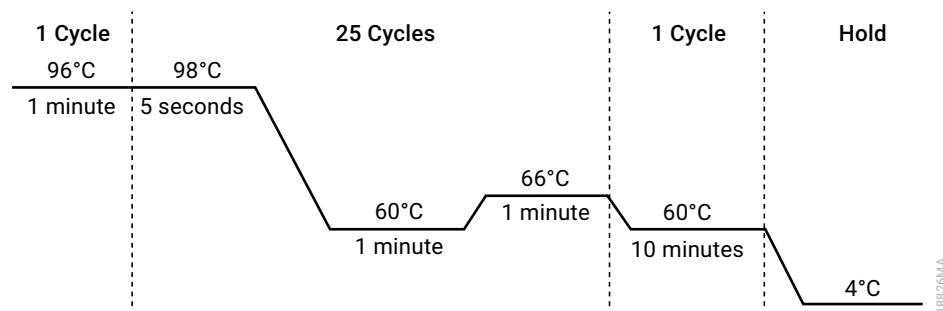

Figure 35. Thermal cycling protocol for ProFlex® PCR System.
2. Select and run the recommended protocol provided below and in Figure 35. The total cycling time is approximately 75 minutes